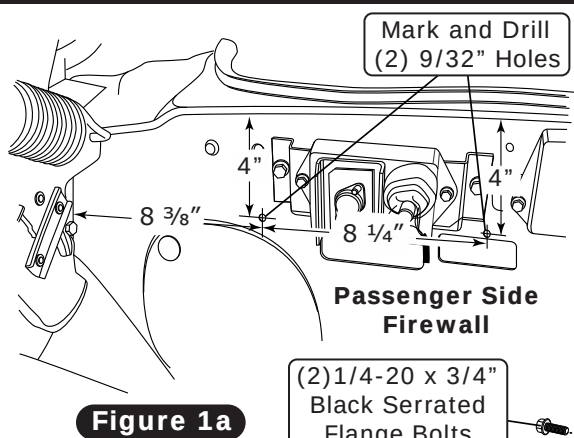

Figure 1a
1. Mark and drill (2) 9/32" holes in the firewall for the evaporator firewall bracket (See Figure 1a, below).
2. Install the drain hose onto the bottom of the evaporator module, then route it through the firewall (See Figure 1a, below).